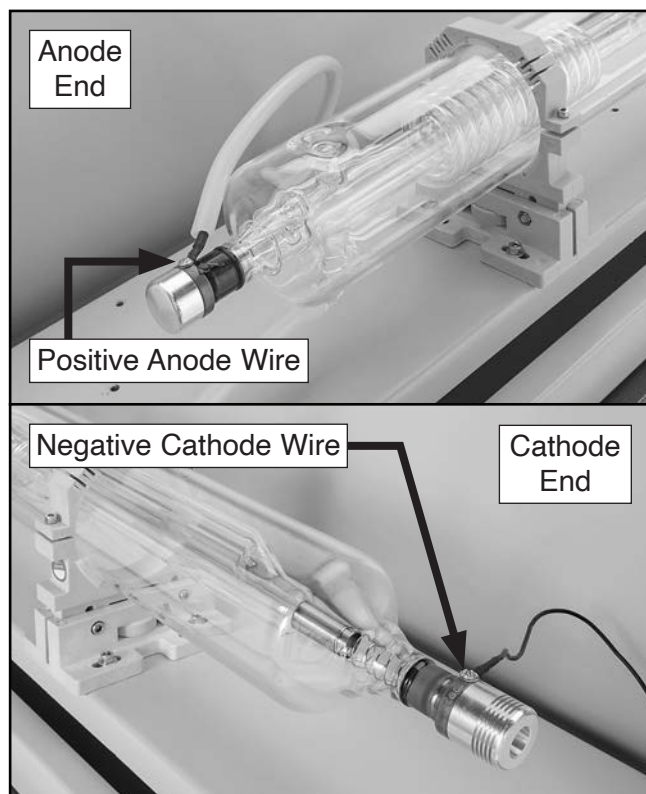

Figure 99. Location of laser tube anode/cathode wires.
17. Remove any oxidation on terminals with isopropyl alcohol, then install anode wire on positive (+) terminal (see **Figure 99**).
18. Remove any oxidation on terminals with isopropyl alcohol, then install cathode wire on negative (-) terminal (see **Figure 99**).